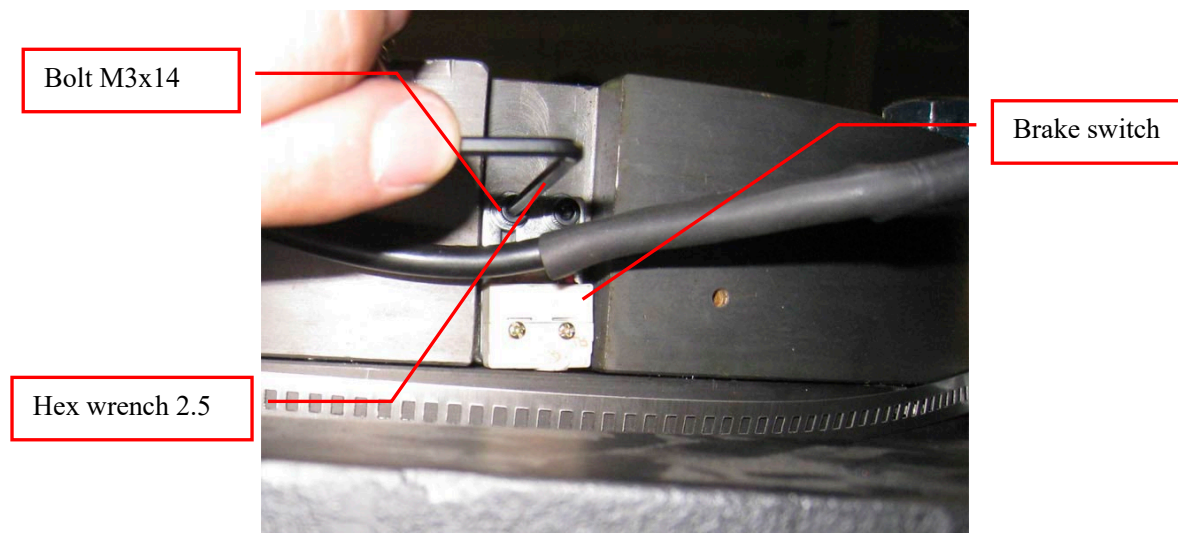

Figure 23 Remove Brake Switch
3. Remove the bolt M3x14 with the hex wrench (2.5mm), then take off the brake switch from brake. See Figure 23.